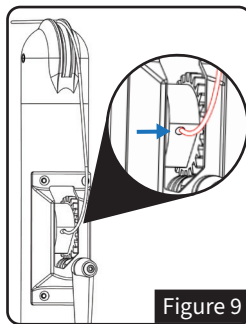

Figure 9
- Place the other end of the cable over the pulley on the **Winder Post (D)**.
- Insert the cable into the crank hole and rotate the crank handle clockwise to tension the net. See *Figure 9*.